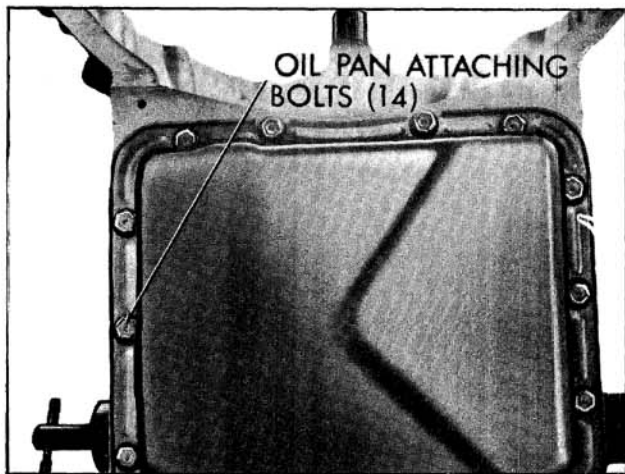

Fig. 6-347 Removing Oil Pan
Refer to Figs. 6-347, 6-540 and 6-541.
3. Remove 14 oil pan attaching bolts using a 1/2" socket. (Fig. 6-347)